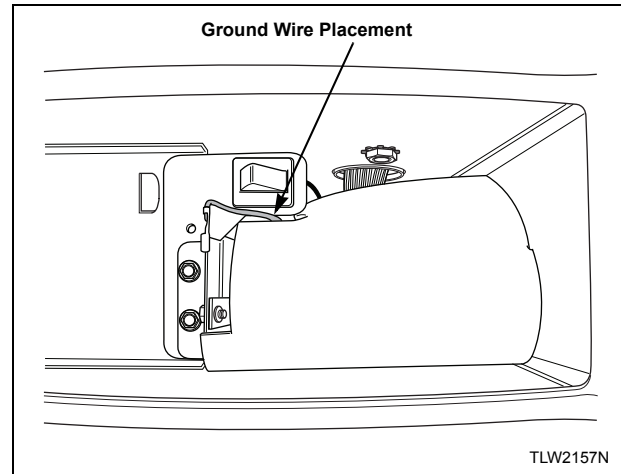

Figure 38
7. Before installing coin slide extension, make sure ground wire is tucked under control shield to provide clearance for coin slide. Refer to *Figure 38*.